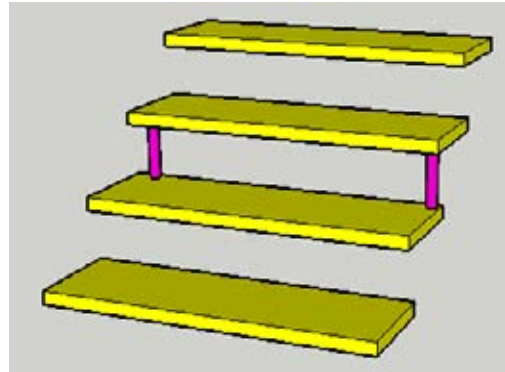

Figure 7-97
- Copy the support component to the other side of the tread (Figure 7-97).